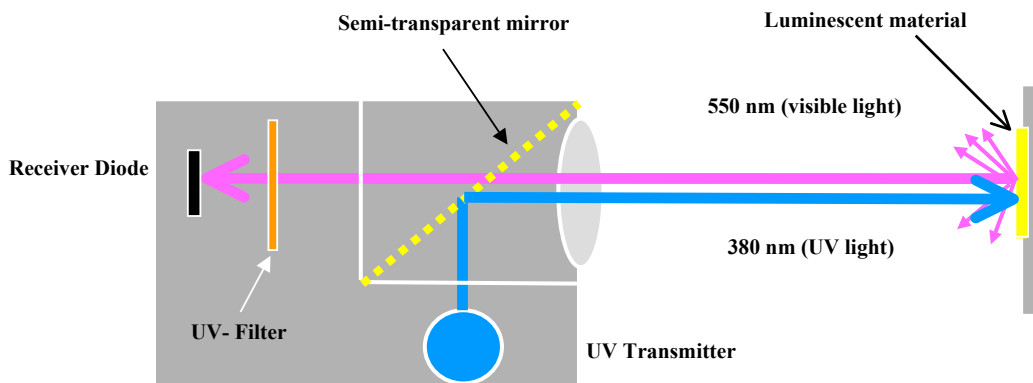

Figure 4: Anatomy of a Luminescence Sensor
Luminescence sensors make up a specific type of contrast sensors. Like contrast sensors, they distinguish two different conditions by emitting a light onto a target and evaluating the reflected light. However, luminescence sensors emit ultraviolet (UV) light, unlike the visible light spectrum emitted by color and contrast sensors. Some materials, called luminophores, react specifically to UV light and are inherently present in the target or are added to it. These materials are stimulated by UV light and emit radiation in the visible light spectrum. This process is called photoluminescence. The color or wavelength of the received light depends in part on the type of luminophore. So a luminescence sensor detects a target when the sensor emits UV light and receives visible light at a specific wavelength reflected back. (See Figure 4.)